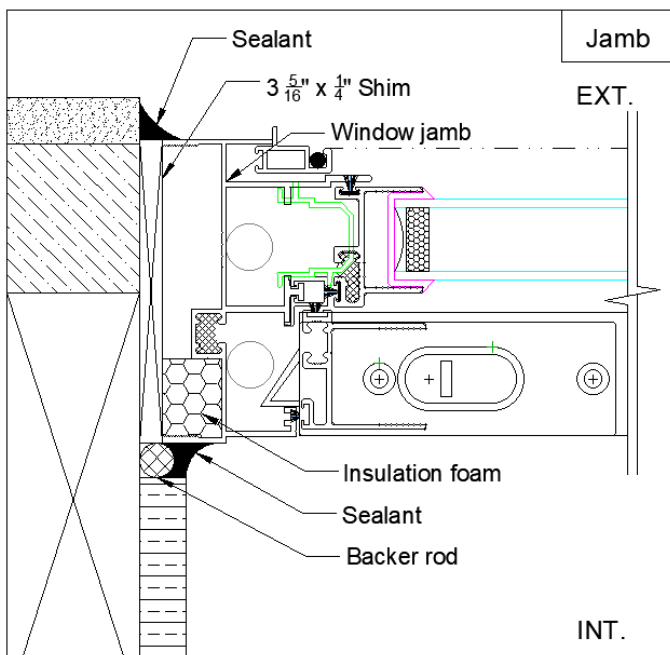

Figure 9: Top View of Jamb
2.2 Set the window on the shim and adjust the window to make equal clearances on both sides. Insert 3 5/16" x 1/4" shim into the clearance between window frame and opening jamb on both sides, the length of shim is same as the opening height, the thickness of shim is depended on the clearance between window frame and opening jamb (1/4" thickness is typical, refer to figure 9). Notice: do not over insert the shims to distort the window frame.